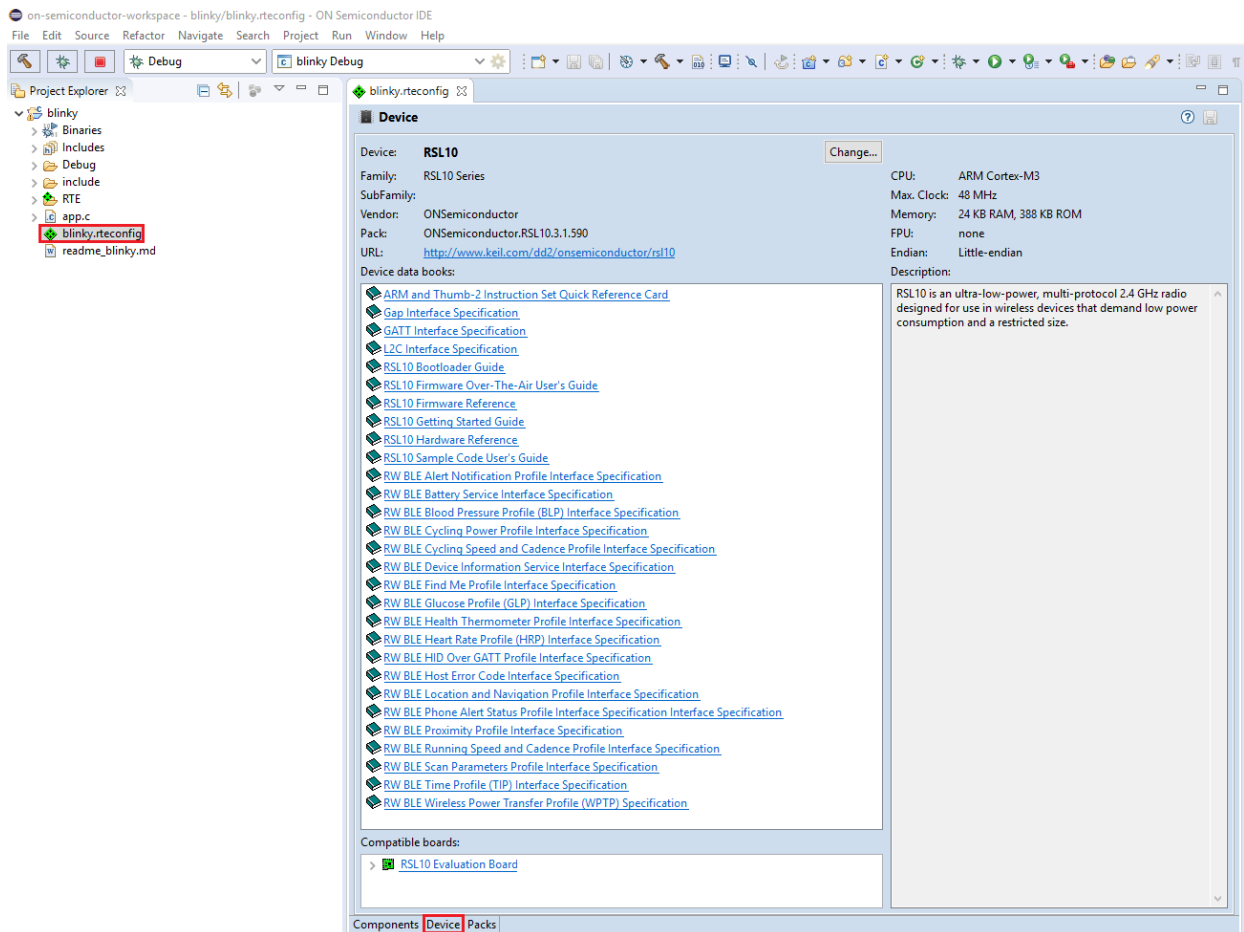

Figure 54. Accessing RSL10 Documentation from the ON Semiconductor IDE
- ON Semiconductor IDE: documentation is accessible through the C/C++ perspective by opening any RTE configuration file, such as `blinky.rteconfig`, and selecting the tab **Device** (see Figure 54, below).